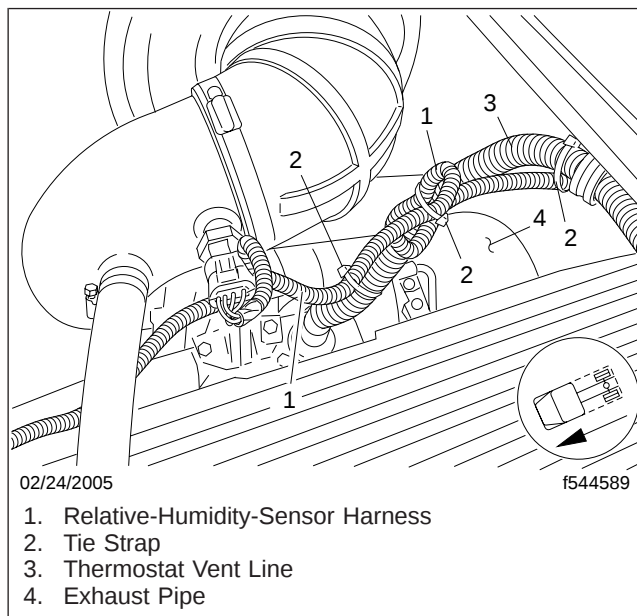

Fig. 4, Harness Rerouted
5.4 If replacing the harness, attach the end of the new harness to the connector at the rear of the engine (or near the starter). Route the harness (new or existing) along the top of the cowl, and secure it to the thermostat vent line with tie straps. If necessary, coil the harness to take up any slack. See Fig. 4.